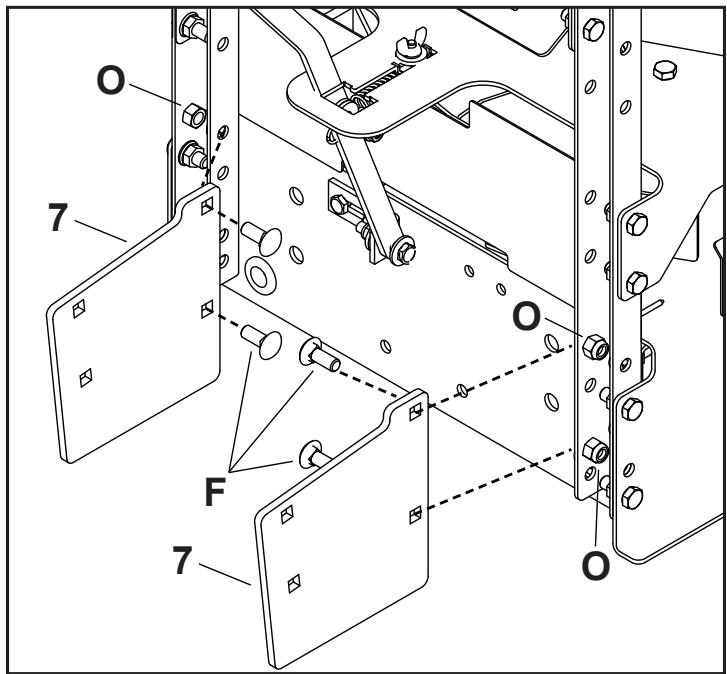

FIGURE 7
STEP 7: (SEE FIGURE 7)
- Orientate a lower 3 point bracket (7) on the inside of the left channel. (Will use the 2nd and 4th hole from the bottom.)
- Install two 3/8" x 1" carriage bolts (F) through the lower bracket (7) and channel.
- Secure with two 3/8" nylock nuts (O) in the channel. Tighten hardware.